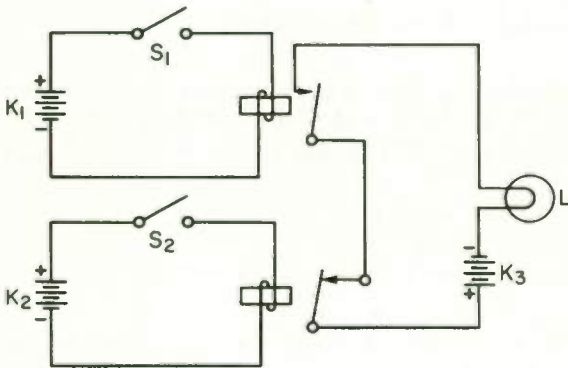

Fig. 31 One switch must be opened and the other closed for the light to come on.
which means "When S_1 is closed AND S_2 is NOT closed, light L is on." You'll remember that NC-type contacts are used to represent NOT logic and NO type contacts are used to represent ordinary logic. You therefore order one SPST (NO) relay to use with switch S_1 and one SPST (NC) relay to use with S_2 . Since an AND circuit is needed, you connect the contacts together in series, as shown in Fig. 31.
1. Referring to Fig. 31, if both S_1 and S_2 are closed, the light will be (a) _____. If both S_1 and S_2 are open, the light will be (b) _____. If S_1 is open and S_2 is closed, the light will be (c) _____. In order for the light to be on, switch (d) _____ must be open and switch (e) _____ closed.